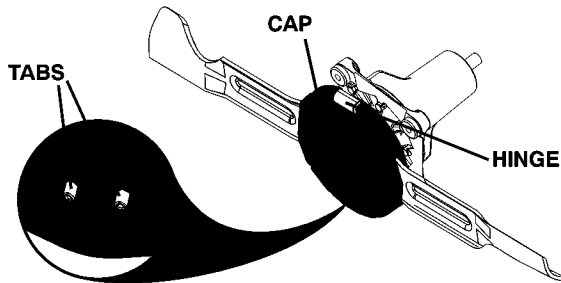

Fig. 28
## BLADE REPLACEMENT (See Figs. 28 - 33)
- Squeeze tabs inward to release cap. Remove by lifting cap from hinge and set aside. (See Fig. 28.)